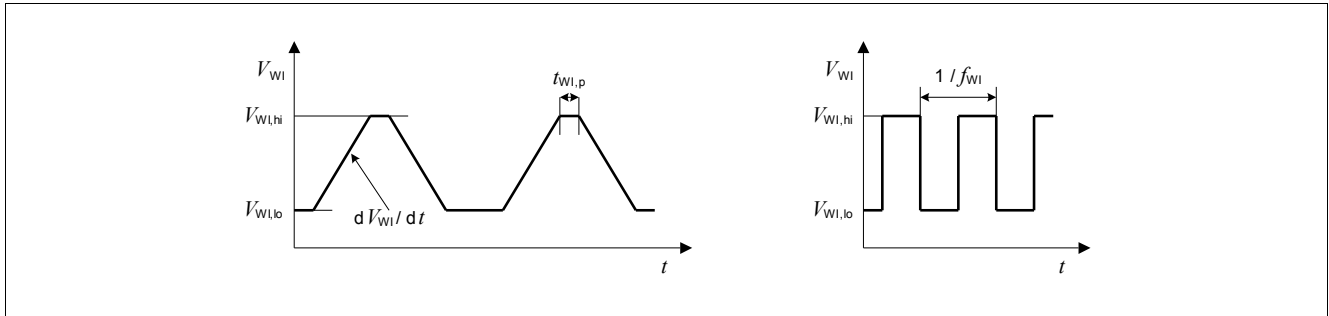

Figure 9 Test Pulses Watchdog Input WI
- 3) For details on the test pulse applied, see Figure 9.